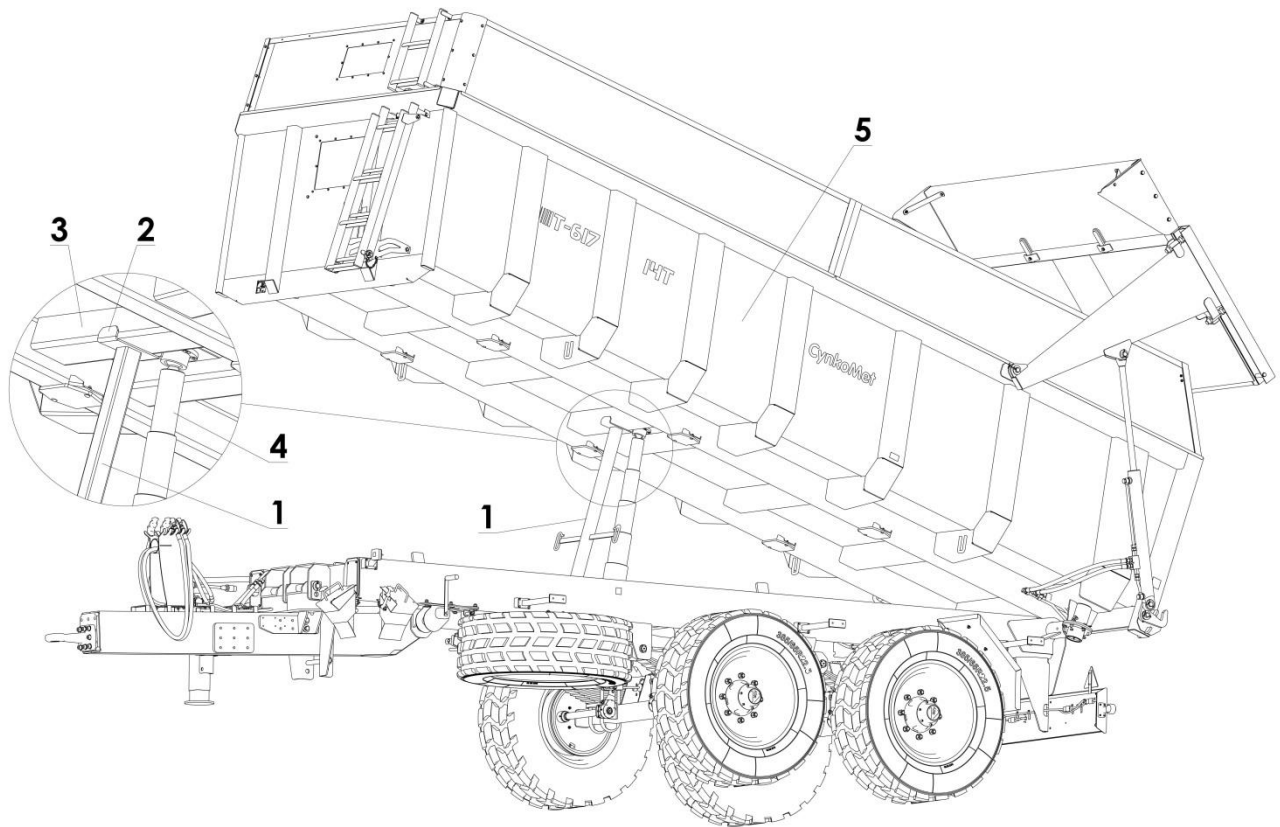

Figure 18. Way of supporting the loading crate
- If it is necessary to perform maintenance and repair work under the lifted load box (e.g. replacement of the telescopic cylinder), the load box should absolutely be secured with a service support (1) (fig. 18).